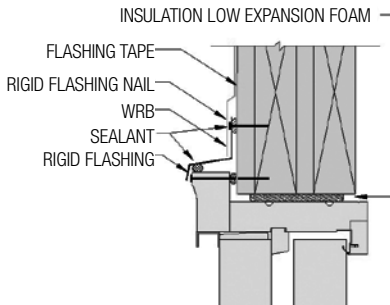

FIG. 17: HEAD JAMB
- A) Apply sealant: Apply a horizontal bead of sealant between the top edge of the rigid metal flashing and flashing tape and between the rigid metal flashing and the top of the brickmould. (Fig. 17)
- B) Apply the rigid metal flashing. The flashing should extend approximately 1/8" past the edge of the brickmould on each side. Nail the flashing to the rough opening using at least a 1" roofing nail every 8"-10" approximately 1/2" below the top edge of the rigid flashing. Ensure that the nail is compatible with the rigid flashing material to prevent corrosion. (Fig. 17 & 18)
- C) Overlap the WRB over the rigid metal flashing. Trim the excess WRB at the rigid flashing bend that is directly below the rigid flashing nail. (Fig. 17 & 18)
- D) Insulate between the door frame and the rough opening using minimally expanding window and door spray foam insulation. Use caution to not overfill the gap, causing the jambs to bow. It is not recommended to apply trim to the unit until the foam has cured to allow the excess to escape. (Fig. 17 & 19)